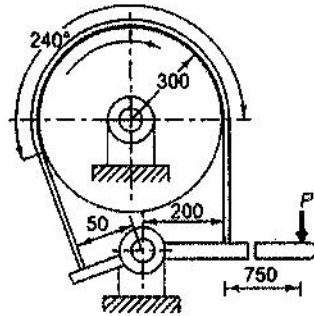

Figure Q5
- (c). A differential band brake is shown in Figure Q5. The width and thickness of the steel band are 100 mm and 3 mm, respectively. Maximum allowable tensile stress in the band is 50 N/mm². The coefficient of friction between the friction lining and the brake drum is 0.25. Calculate: the tensions in the band, the actuating force and the torque capacity of the brake. Also determine whether the brake is self-locking. [12]